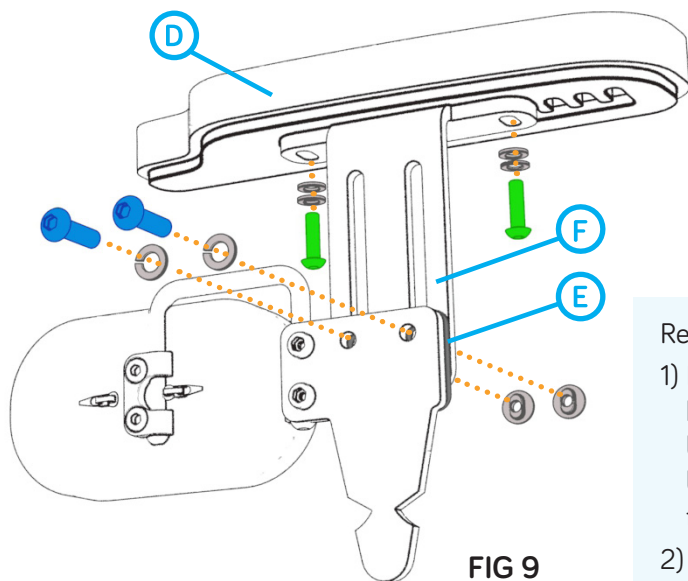

FIG 9
- 1) Remove the screws (blue FIG 9) that secure the arm supports height bracket (**F**) with the washers, T-nuts and plastic spacer block (**E**) and place to one side for re-installation. Rotate this bracket and arm support 180° and reattach spacer block with fasteners in the order they were removed.